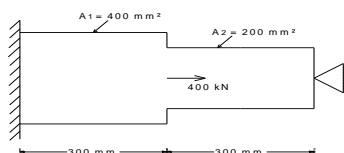

fig.2
12. (a) A stepped bar is subjected to an axial load as shown in the fig.2, find the support reactions and the element stresses. Take $E = 2 \times 10^5 \text{ MPa}$. 5